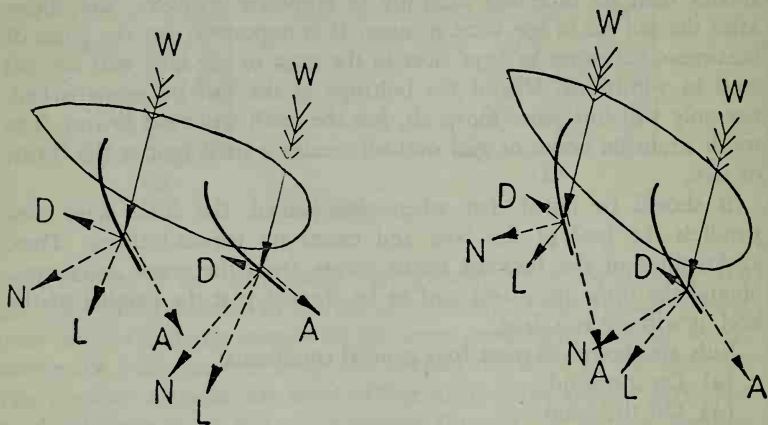

FIG. 33-12.
(2) When the sails have been set, it will be noted that the higher the boat is pointed into the wind the more are the driving force  $D$  and the leeway force  $L$  reduced (Fig. 33-12).